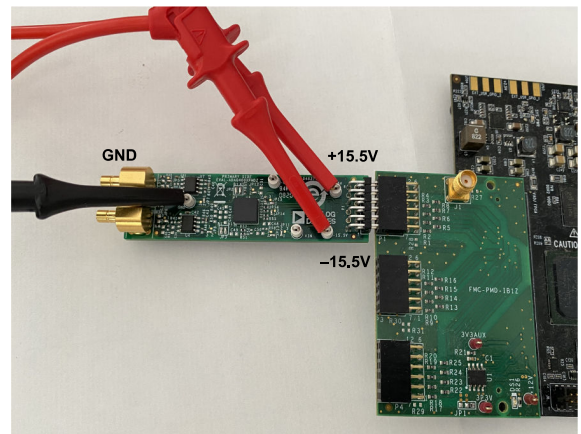

Figure 3. EVAL-ADAQ4001PMDZ and EVAL-ADAQ4003PMDZ External Supply (Optional) Connections
4. Connect the +15.5 V and -15.5 V bench supplies to the +15.5 V and -15.5 V test points on the EVAL-ADAQ4001PMDZ or the EVAL-ADAQ4003PMDZ (see Figure 3). Connect the bench supply ground to the GND test point as shown in Figure 3.